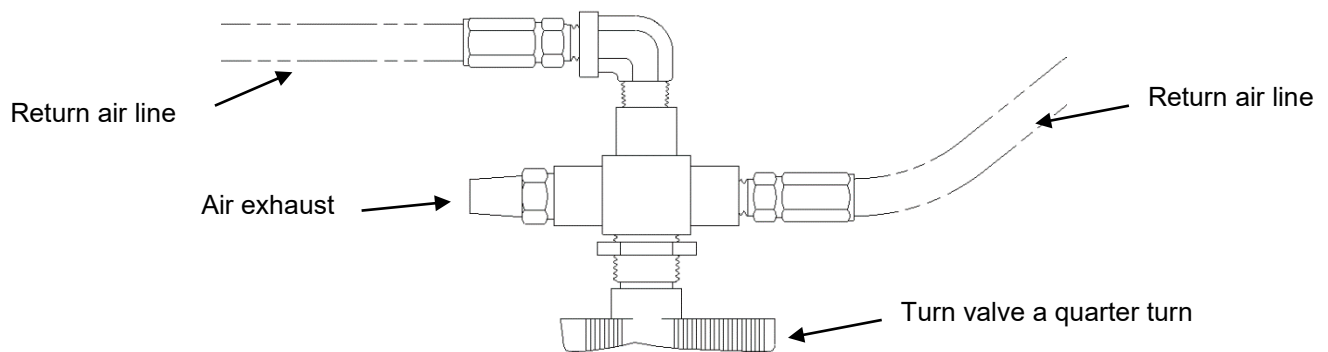

Figure 3.2-1
1. Release the air valve a quarter turn. See Figure 3.2-1.